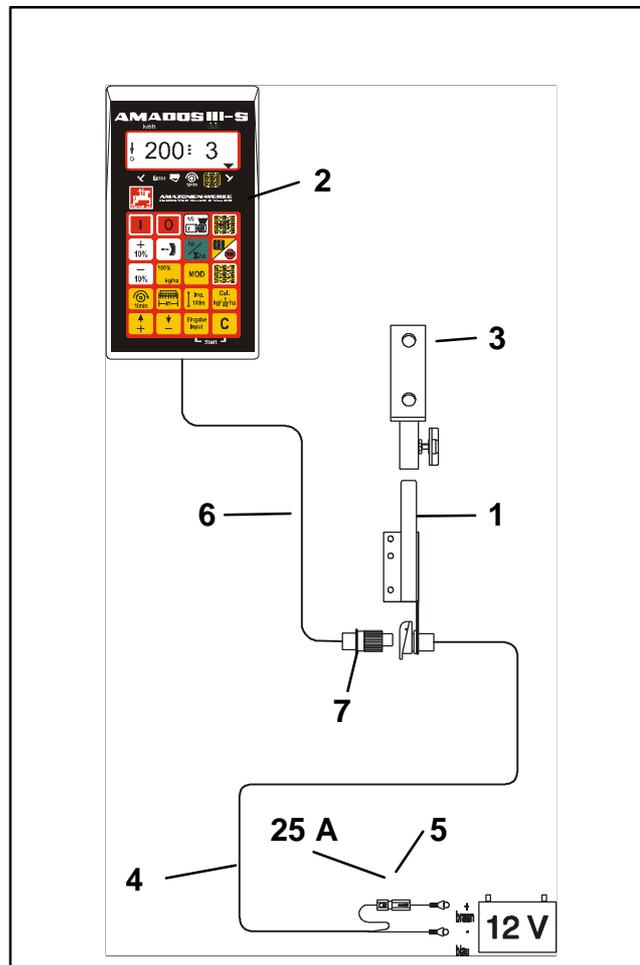

Fig. 2
Fit console (Fig. 2/1) within reach and sight to the right hand of the operator; it must be free of vibrations and electrically conductive (scratch off paint in the area of contact) inside the tractor cab.
Make sure that the AMADOS III-S housing (Fig. 2/2) receives via the console an electrically conductive connection to the tractor chassis. Scratch off all paint from the fitting surfaces
- Fit the bracket (Fig. 2/3) fitted to the AMADOS III-S onto the tube of the console, bring it to the desired position and fix by the thumb bolt there.
- Connect the battery connection lead (Fig. 2/4) for the power supply directly with the tractor battery (12 V) and lay cable.
- Connect cable connector (Fig. 2/5) with fuse (5A) to brown cable and connect with the plus pole of the tractor battery.
- Connect power supply cable (Fig. 2/6) of the **AMADOS III-S** with the socket (Fig. 2/7).